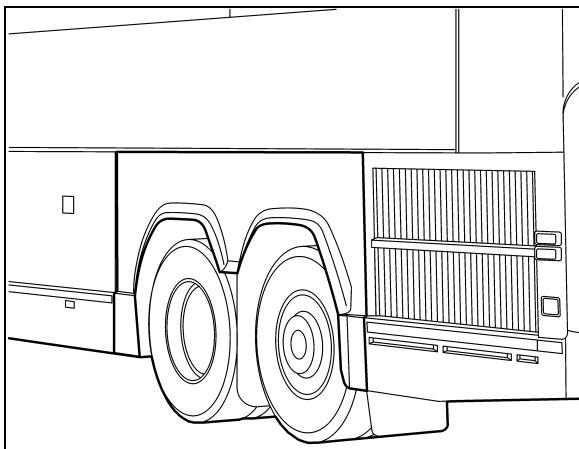

FIGURE 21: L.H. SIDE REAR FENDER
5. Remove L.H. side rear fender (Figure 21).